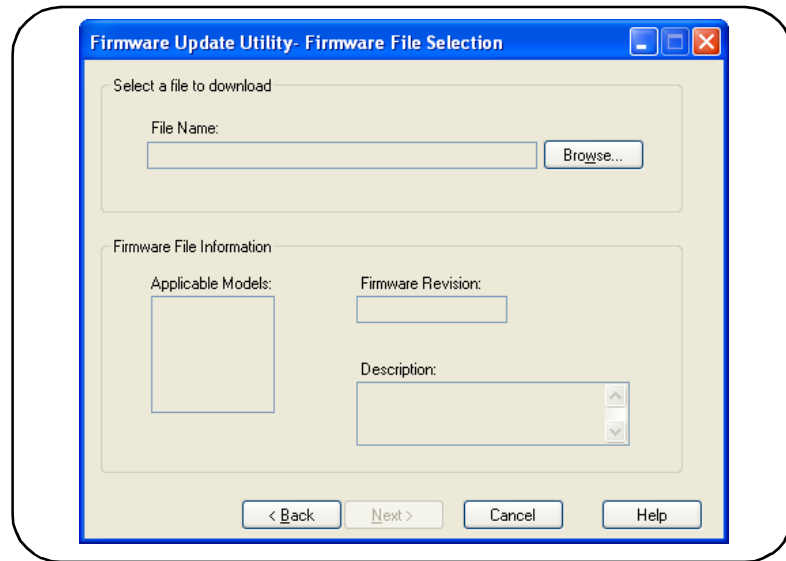

Figure 2-10. Selecting the Update File Path.
2. Press Next and using the Browse button, specify the path to the firmware file (Figure 2-10). Once specified, the instrument model number will appear in the 'Applicable Models' window along with the revision and instrument description. Select Next.